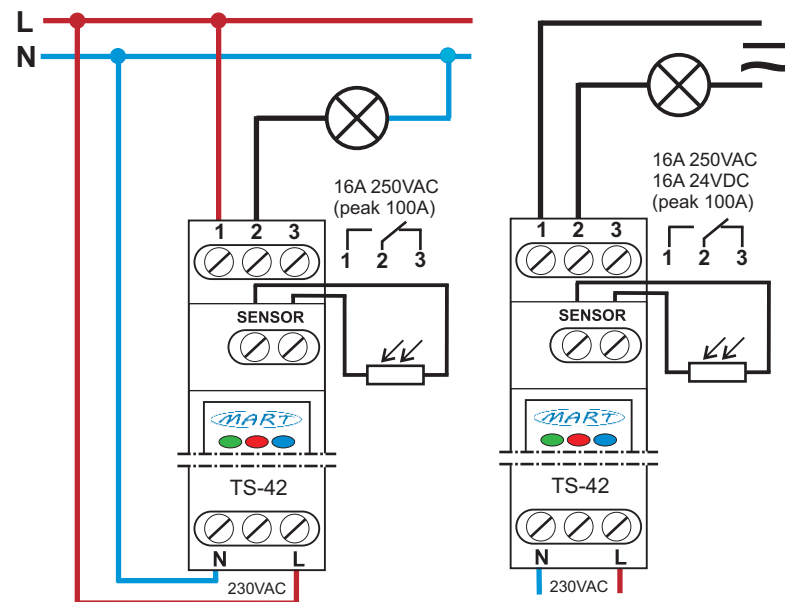

Fig. 2.: Connection diagrams for the TS-42-2 TWILIGHT SWITCH automatic device.
3. connect the wires in accordance with the diagram (fig. 2)